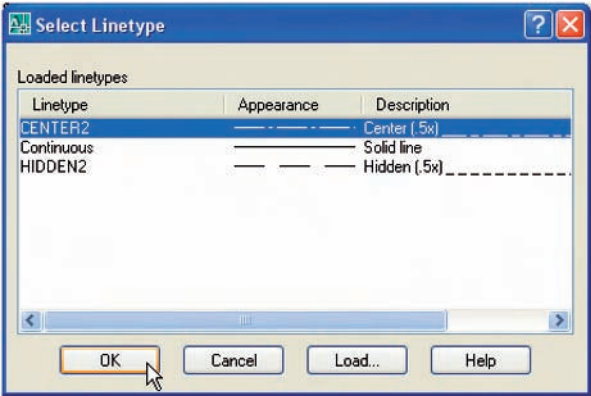

Fig. 4.20 The Select Linetype dialog
5. *Click* on the linetype **Continuous** against the layer name **Centre**. The **Select Linetype** dialog appears (Fig. 4.20). *Click* its **Load . . .** button and from the **Load or Reload Linetypes** dialog *double-click* **CENTER2**. The dialog disappears and the name appears in the **Select Linetype** dialog. *Click* the **OK** button and the linetype **CENTER2** appears against the layer **Centre**.